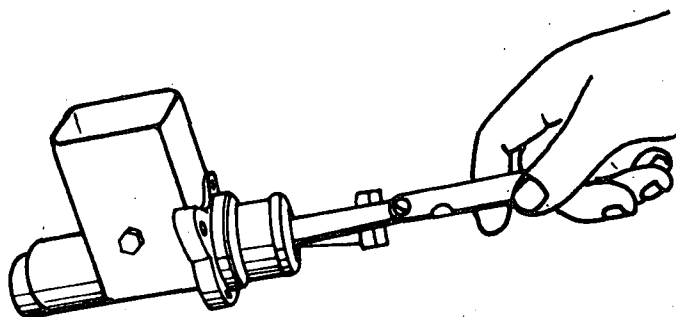

Fig. 2.
- c) Check the play between the piston and cylinder according to the manufacturer's specifications (fig. 2).